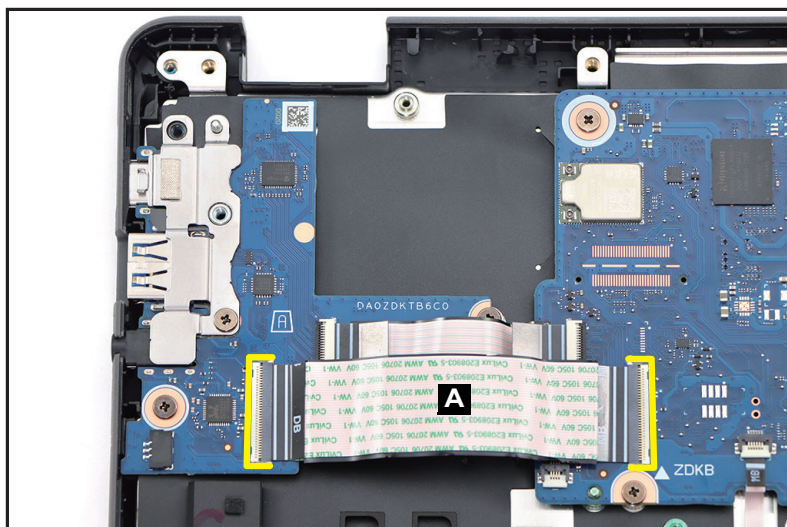

Figure 3-28. USB Board Removal
1. Disconnect the 36-pin I/O board (L) FFC (A) from the USB board and mainboard connectors (Figure 3-28). Then remove the FFC.